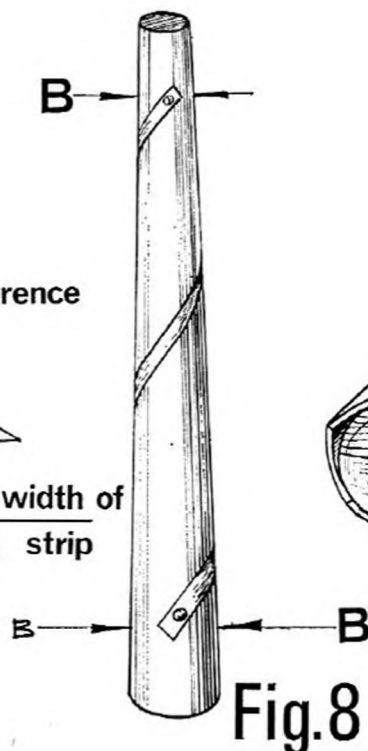

Fig. 8
- (ii) A strip of paper equal in length to the balsa strip blanks to be used is wound around the former at  $30^\circ$  to its axis. (This determines how far "up" the strips will cover (Fig. 8).